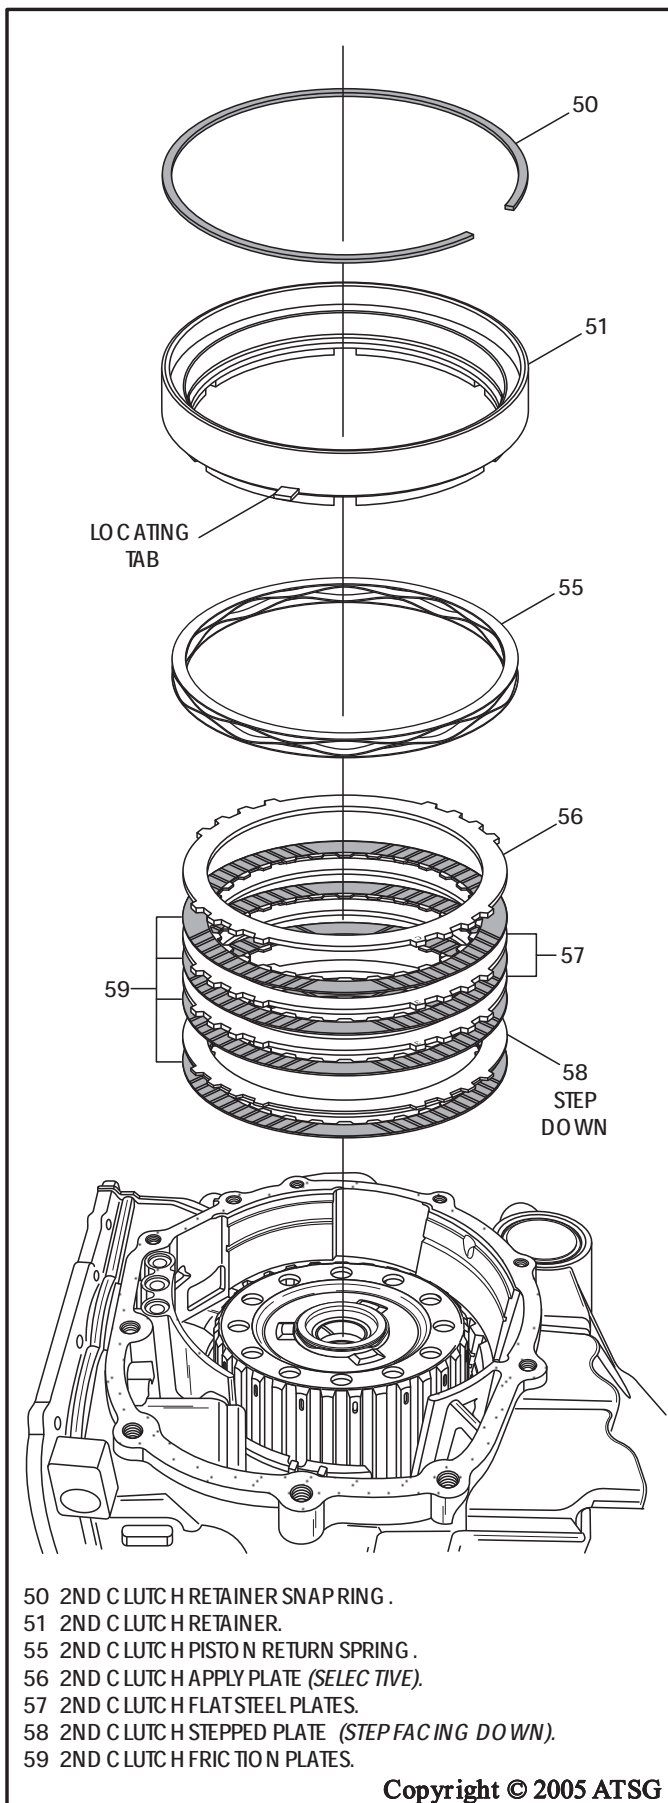

Figure 182
58. Now re-install the 2nd clutch plates beginning with 1 friction plate, as shown in Figure 182.
59. Install the "Stepped" apply plate, as shown in Figure 182, with the **step facing down**.
60. Install the remaining friction and steel plates, as shown in Figure 182.
61. Install the selective apply plate, as shown in Figure 182.
62. Install the 2nd clutch piston return spring, as shown in Figure 182.
63. Install 2nd clutch piston and retainer assembly, as shown in Figure 182, and install snap ring.
Note: Ensure that locating tab is engaged into the case groove (See Figure 182).